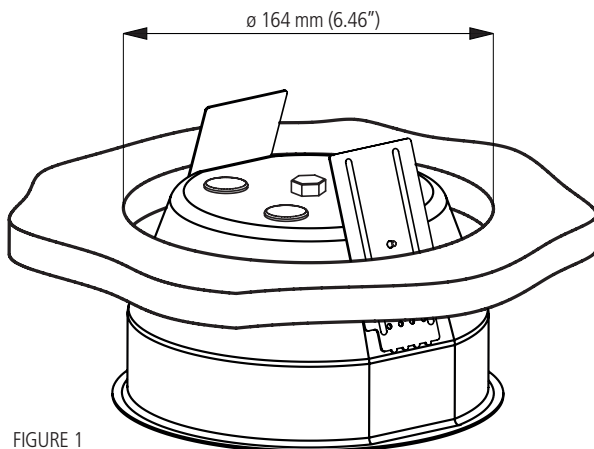

FIGURE 1
1. Drill a hole of diameter 164 mm (6.46") in the false ceiling panel, as shown in figure 1.
3. Insert the fire dome in the hole previously drilled (as shown in figure 1).